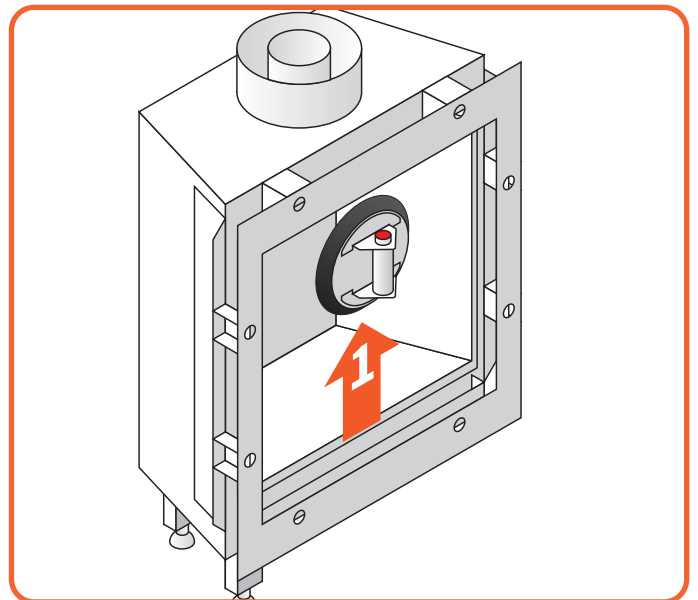

Figure 9.6 | Put on suction cup and lift a bit
- Put the section cup on the glass and make sure it is properly vacuumed, so it will not come off. (See Figure 9.6)